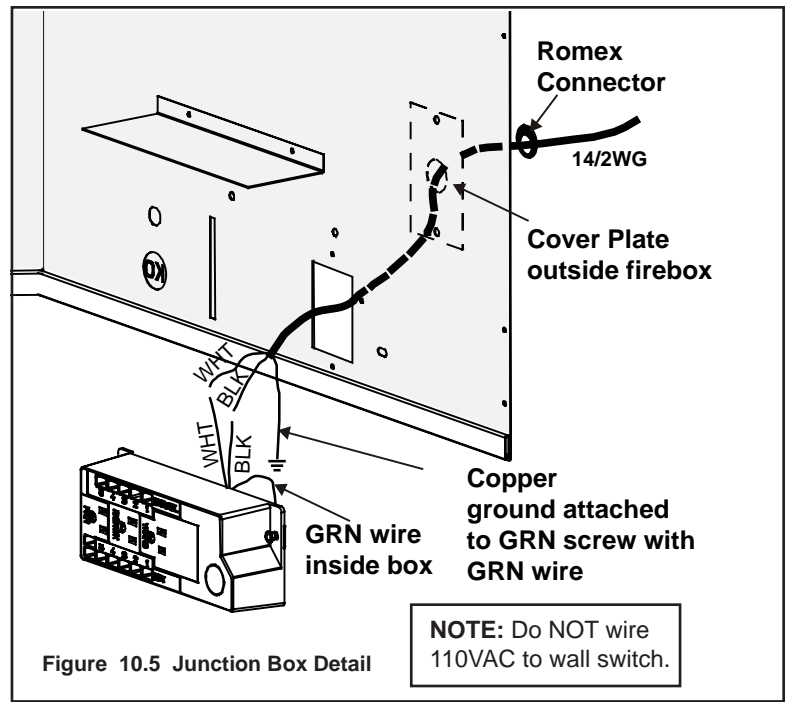

Figure 10.5 Junction Box Detail
- Remove the cover plate located on the outer shell - right side (see Figure 10.5).
- Remove the screw attaching the junction box/receptacle to the outer shell, rotate the junction box inward to disengage it from the outer shell (see Figure 10.5).